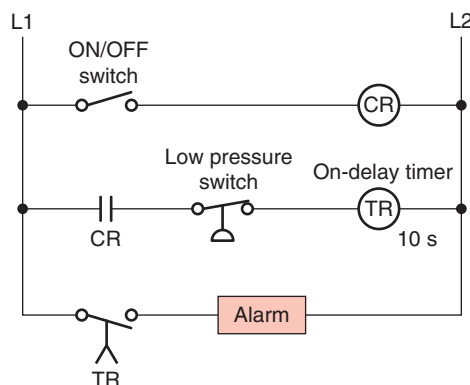

Figure 15-56 Hardwired TON alarm circuit for Problem 6.
6. Implement the hardwired TON alarm circuit of Figure 15-56 in Logix format.